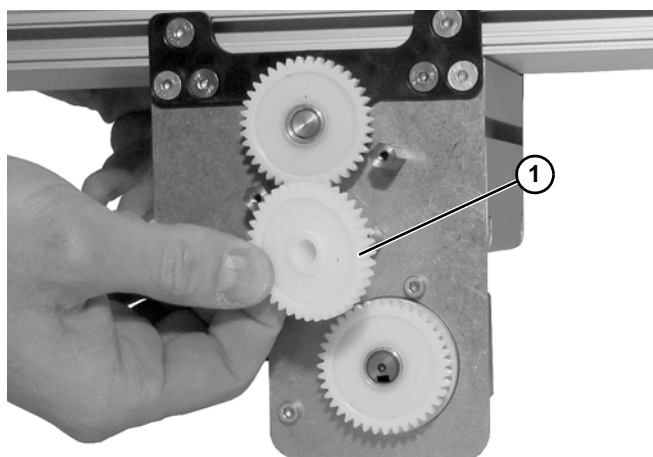

Figure 5
3. Remove gear (**Figure 5, item 1**).